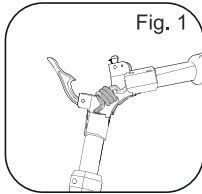

Fig. 1
1. Unfold the collapsible handle so that the shaft is in a continuous straight line. (Fig. 1)